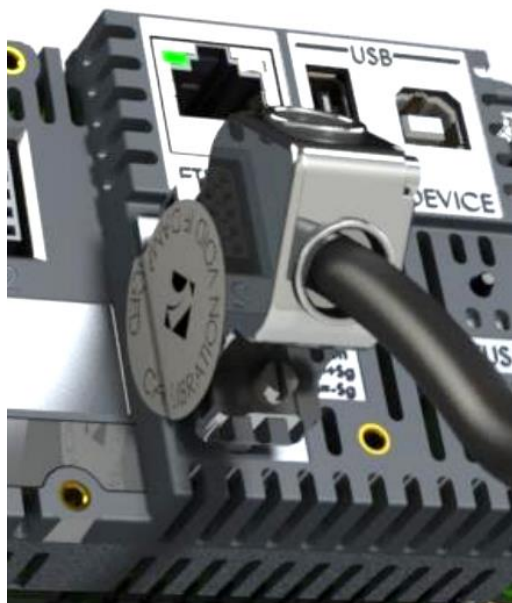

Figure 2: Sealing DB9 loadcell connection.
- Place a sticker across the load cell connector as shown in Figure 2.